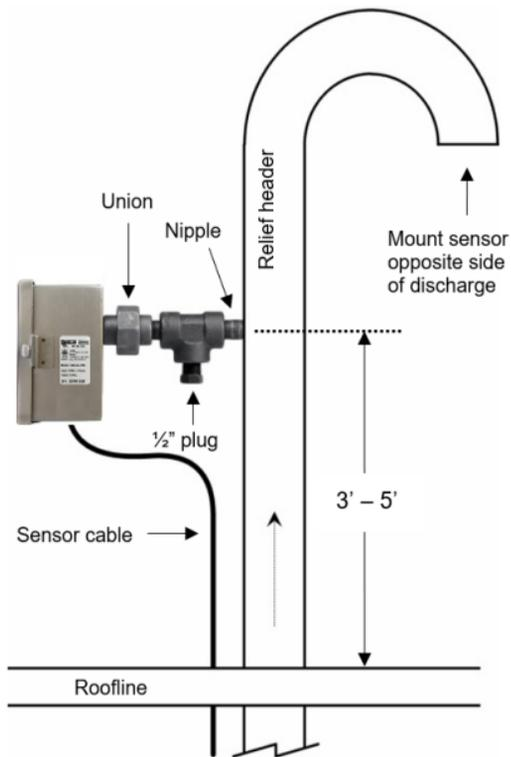

Figure 1: Discharge to Atmosphere
- **Figure 1** shows the sensor installed above the roofline. However, the sensor can be mounted below the roofline closer to the safety relief valves.